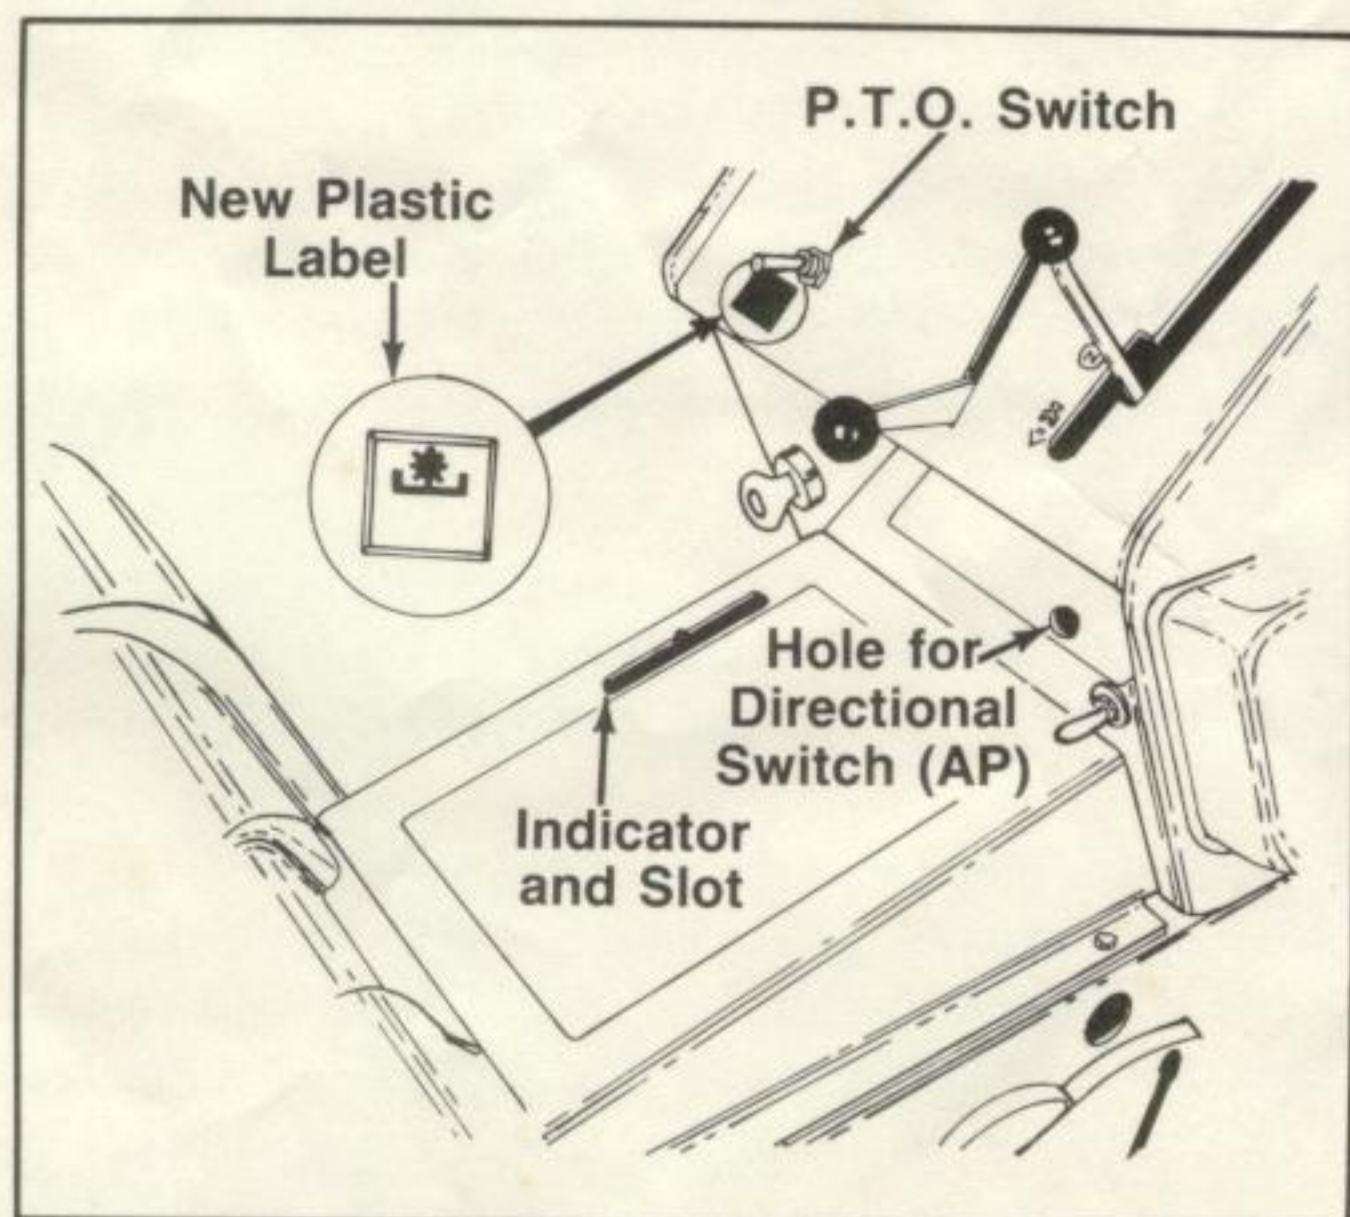

FIGURE 39. (Model 1572 Only)
55. Install directional switch (AP) in hole in pedestal as shown in figures 39 and 40.
57. Thoroughly clean the instrument panel area where the P.T.O. switch is located and attach new plastic label provided in kit, as shown in figures 39 and 40.
59. Reinstall the frame cover to the tractor; be sure that lift indicator is through the slot in the cover. See figures 39 and 40.